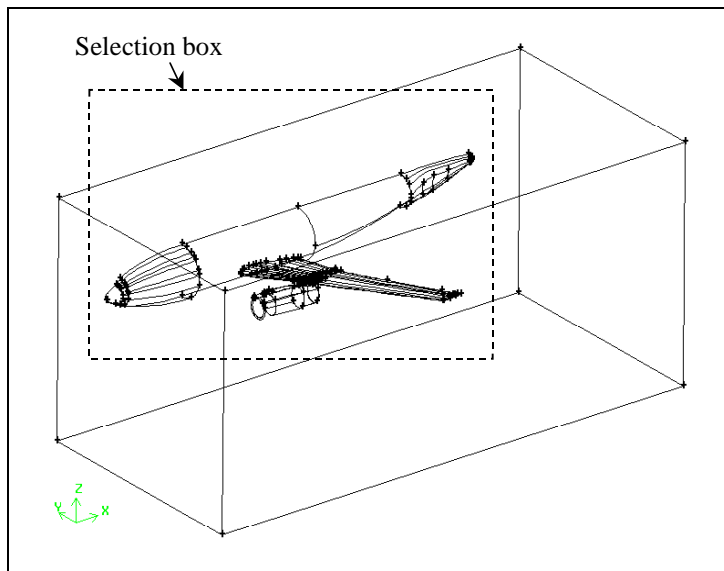

Figure 14-17: Entire model with selection box
- h) Select all of the faces associated with the airplane geometry by *Shift*-left-dragging the mouse from the lower right toward the upper left to create a rectangular selection box around the airplane geometry (see Figure 14-17).